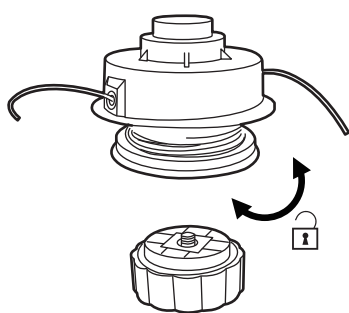

Fig. 16a
- > Remove the trimming head (22) by unscrewing the bumper clockwise (Fig. 16a).